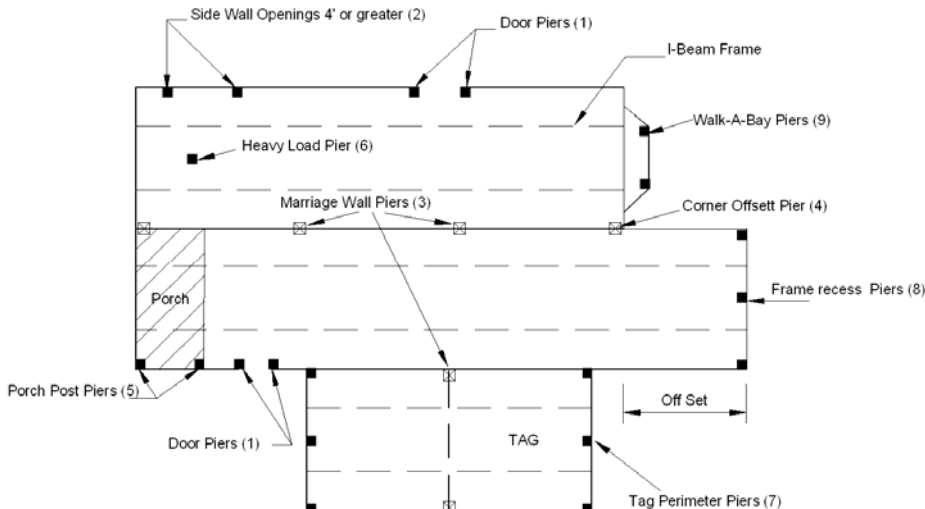

Figure 8. Typical point-load support locations
- (2) Other exterior wall openings four feet and greater at both sides of each opening (including multiple windows that total four feet wide or more without intermediate supports, even if individual windows are less than four feet).
- (3) Marriage line openings four feet or greater at both sides of each opening (when home has perimeter blocking and marriage line openings are greater than 10 feet, intermediate supports must be placed at maximum 10 feet on center).
- (4) Marriage line pier at corner of offset.
- (5) Load-bearing porch posts.
- (6) Under heavy (400 lbs or greater) items, such as heavy furniture, waterbeds, fireplaces and large fish tanks.
- (7) Tags require 3 perimeter piers under each end as shown in Figure 8.
- (8) Perimeter piers required under front and rear of homes with front cross member and rear frame recessed over 9 inches.
- (9) Pier each end of walk-a-bay over 16 inches out from home.
- Offset shall be tied down and pried as a single section for that portion of the home. Also, pier shall be placed at the inside corner where floors join (ref. point 4 in Figure 8).
Mark the required point load support locations on the sketch. Supports are not required where the manufacturer has reinforced the floor (such as with additional outriggers or floor joists) and so noted in the documentation provided with the home. Figure 8 and Figure 9 identify typical point load support locations.